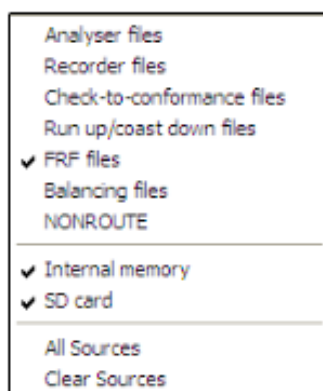

Figure 1. Importing FRF data
1. Import the FRF data from the Microlog using Mobile Device Viewer (**File > Mobile Device Viewer**). Ensure **FRF files** are selected as the source (Internal memory and SD card). [Figure 1]